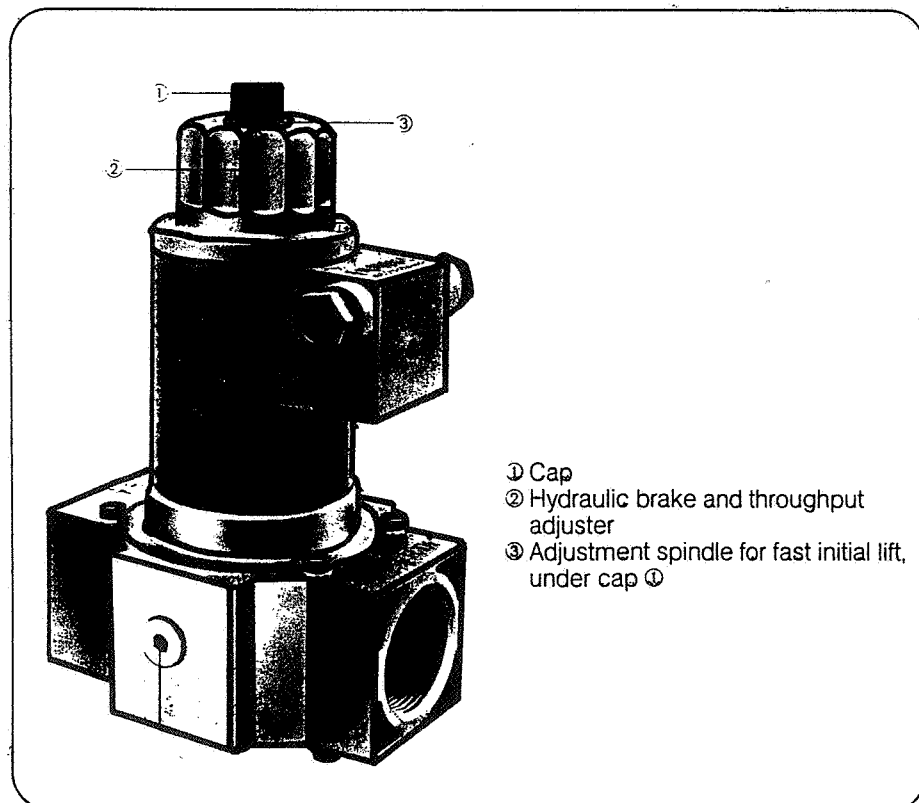

Fig. 10. Second Safety Shut-Off Valve.
SINGLE STAGE (ON/OFF BURNER) (FIG. 10).
9.3.1 UPSTREAM SAFETY SHUT-OFF VALVE (HIGH/LOW BURNER) (FIG. 10)